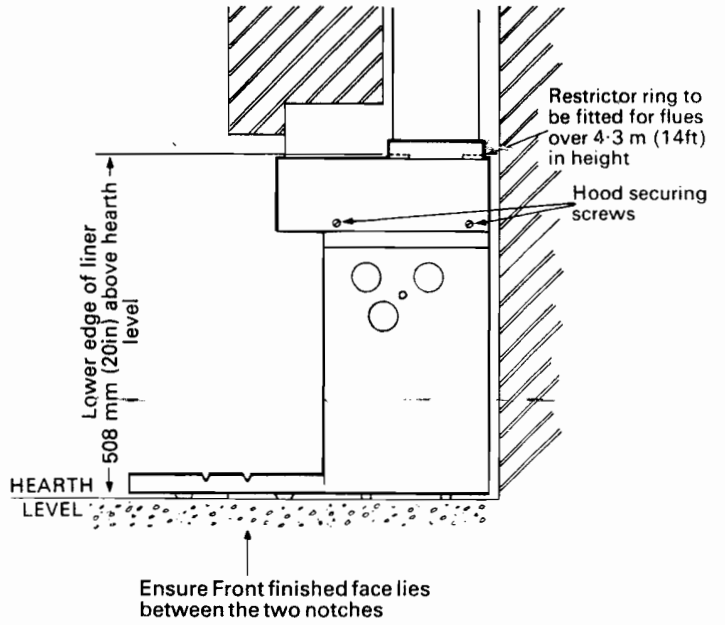

Fig. 4. Boiler in Builders Opening
Fitting the boiler (Fig. 4)
- Lift the boiler off the transit base. Place the boiler in the builders opening, and remove the heat shield over the controls. Check that the front finished face lies between the two notches on the sides of the boiler base (Fig. 4) and that the arrowhead cut out at the front is on the centre line of the heart. With the boiler now in position drill directly through the fixing holes and secure with the plugs and screws provided (see page 15).